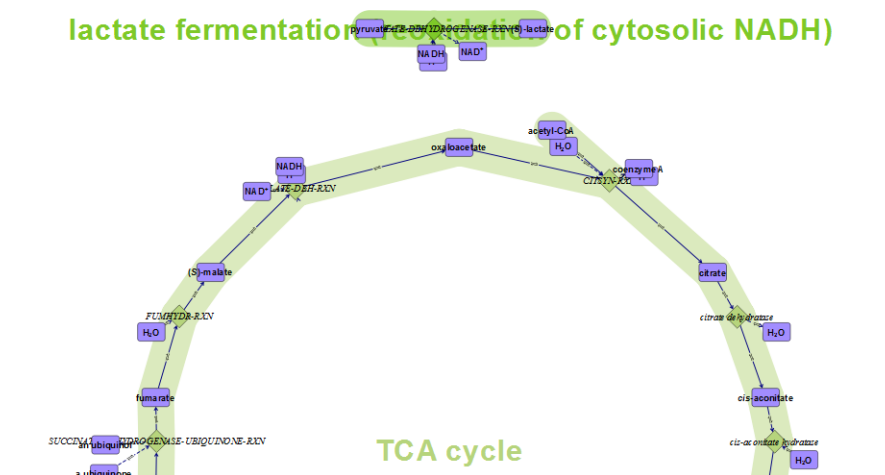

Figure 67 Drawing Area showing an initial view of two BioCyc pathways. During this workflow you will move, edit, and align elements to improve the view.
- j Click **OK** to create your new document. The two pathways are placed in the *Drawing Area*. The *lactate fermentation (reoxidation of cytosolic NADH)* pathway was moved from its initial position produce the view shown in Figure 67.